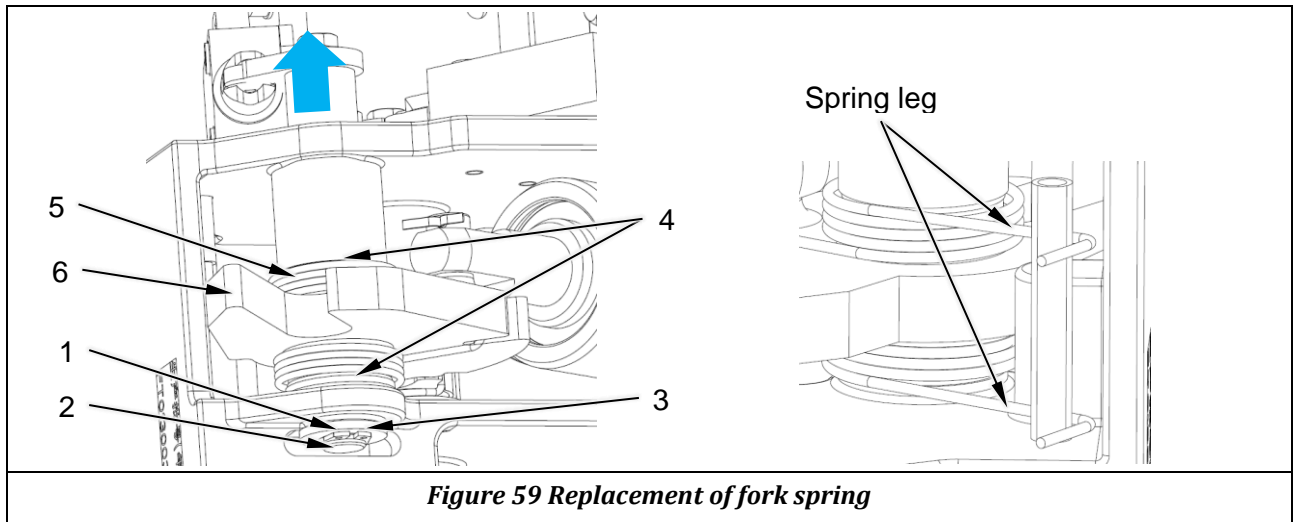

Figure 59 Replacement of fork spring
- 3) Remove the circlip (item 1, *Figure 59*) from the shaft (item 2, *Figure 59*)
- 4) Extract the shaft (item 2, *Figure 59*) from the top
- 5) save the washers (item 3&4, *Figure 59*)
- 6) remove the spring (item 5, *Figure 59*) together with fork (item 6, *Figure 59*)
- 1) Install the fork spring on the fork (item 2, *Figure 59*)
- 2) Put the fork in its position, and put the washer (item 4, *Figure 59*) on top and bottom of fork
- 3) Insert the shaft (item 2, *Figure 59*)
- 4) Put the washer (item 3, *Figure 59*) on the shaft
- 5) Install the circlip (item 1, *Figure 59*) on the shaft